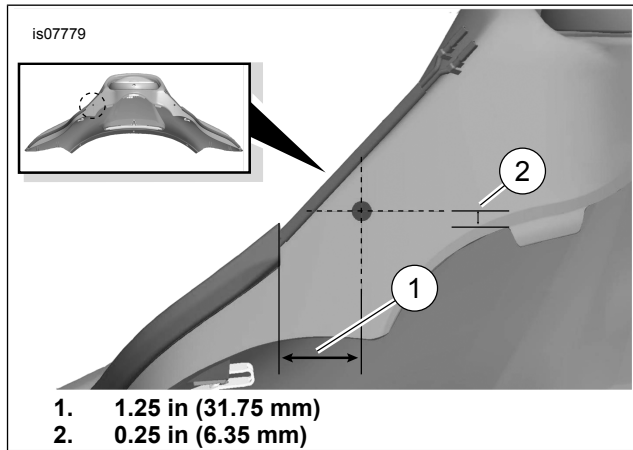

Figure 3. Fairing Edge Lights, Wire Routing (Outer Fairing Bottom View)
- See Figure 3. Drill a wire routing hole through the outer fairing as shown.